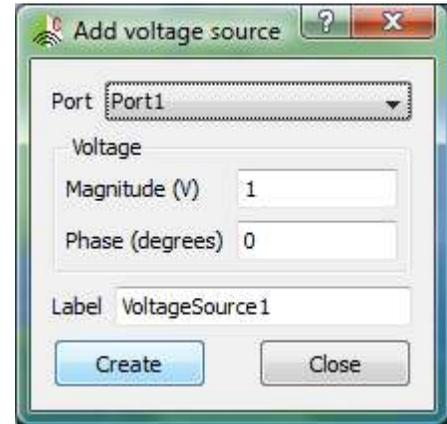

Figure 17.
20. Adding the excitation source is the step that follows. We will use a voltage source of amplitude 1 and phase 0. Figure 17 shows this window after right clicking the “Excitations” → “Voltage source”. Since we have only one port, then the excitation source will be automatically assigned to the single port. Hit “Create”. If you have multiple ports, then choose the port label from the “Port” menu in Figure 17.